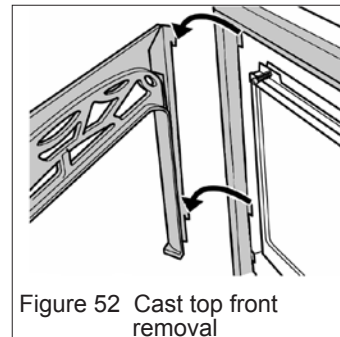

Figure 52 Cast top front removal
- Lift up and unhook the upper casting. The bottom casting does not need to be removed. See figure 52.
- Lift up and unhook the upper casting. See figure 52